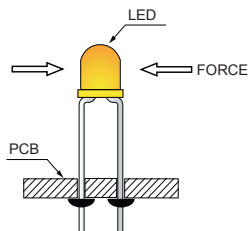

Fig. 10
- After soldering or other high-temperature assembly, allow the LED to cool down to 50°C before applying outside force (Fig.10). In general, avoid placing excess force on the LED to avoid damage. For any questions, please consult with Kingbright representative for proper handling procedures.